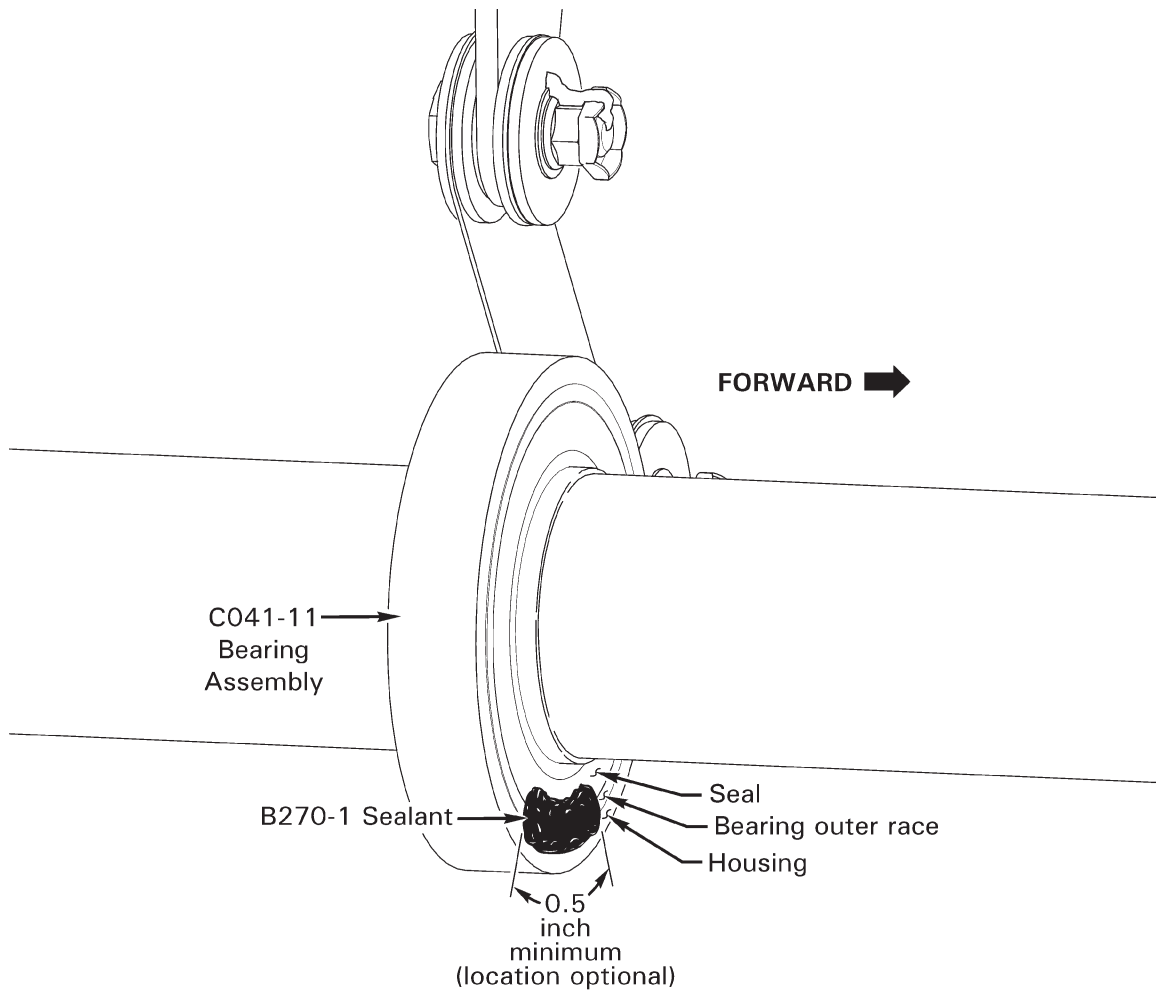

FIGURE 1
2. Refer to Figure 1. Visually inspect forward and aft sides of damper bearing (refer to R44 Illustrated Parts Catalog Figure 65-5) and verify minimum 0.5 inch length of B270-1 sealant anywhere along junction of black seal and bearing outer race.